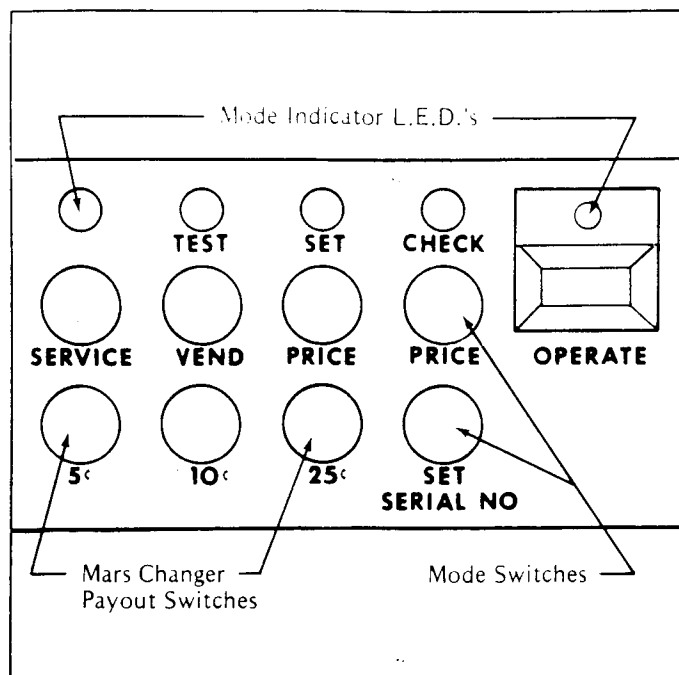
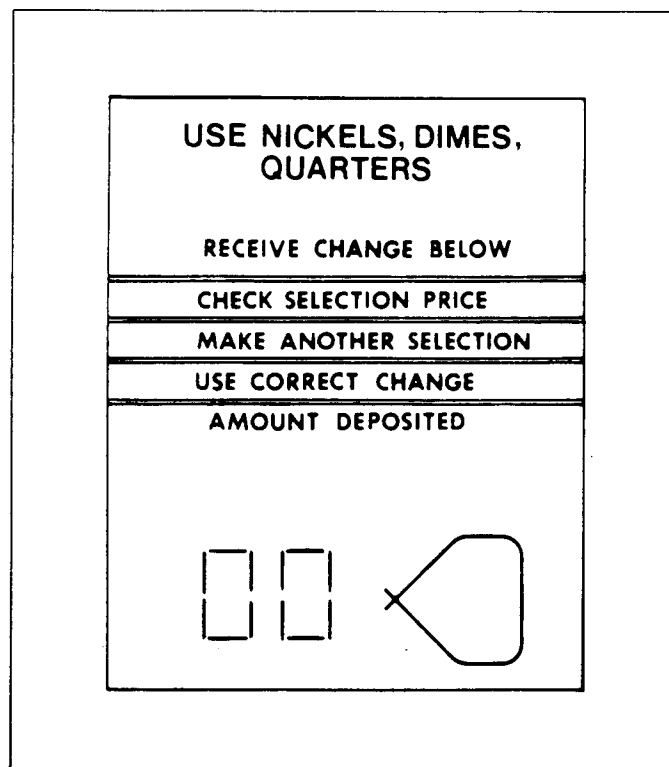
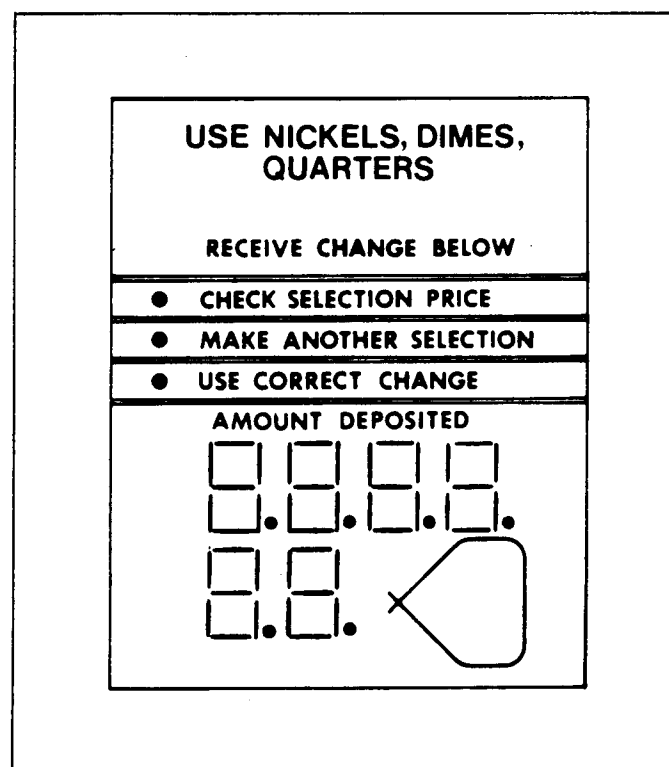

Figure 10. MODE SWITCHES.
Figure 16.
Figure 20.
The mode switch box is located on the door above the changer. It allows for control of the following machine functions: Operate mode, set price mode, check price mode, test vend mode, service mode and set serial number mode (see Figure 10).
- A. Press the "set price" button on the mode switch box (Figure 10). The L.E.D. above the set price button will light and the product code display located on the selection panel will be explained later. Any selection programmed at this reading will be removed from the operating program. This would be used when shelves are moved or the number of selections changed to remove those selections not present in the machine from the program.
- Press the "check price" button on the mode switch box (Figure 10). The L.E.D. above the check price button will light and the selection panel display will be blank.
- A. Press the "set price" button on the mode switch box (Figure 10). The L.E.D. above the set price button will light and the display located on the selection panel will show "00" (Figure 16). This two digit display is the product code and can be incremented up by pressing button 13 and down by pressing button 14. Increments are one. Any selection programmed at this reading will be removed from the operating program. This would be used when shelves are moved or the number of selections changed to remove those selections not present in the machine from the program.
- A. Press the "check price" button on the mode switch box (Figure 10). The L.E.D. above the check price button will light and the selection panel display will be blank.
- A. Press the "check price" button on the mode switch box (Figure 10). The L.E.D. above the check price button will light.
- A. Press the "test vend" button on the mode switch box (Figure 10). The L.E.D. above the test vend button will light and the display located on the selection panel will be blank. The machine is now ready to operate exactly under the same conditions as in the operate mode, so you will have to use money for the testing. After all servicing and testing has been made return the machine to the operate mode. The machine is now ready for normal customer usage.
- A. Press the "service" button located on the mode switch box (Figure 10). The L.E.D. above the service mode button will light and the selection panel L.E.D.'s will all light (Figure 20). This tells the service person if all L.E.D.'s are in operating condition and that the Control Board is operating.
- C. If a non-functioning motor exists, record the selection on paper and repeat step B. Continue this procedure until all non-functioning selections have been displayed, recorded and the selection panel display reads all 8's (Figure 20).